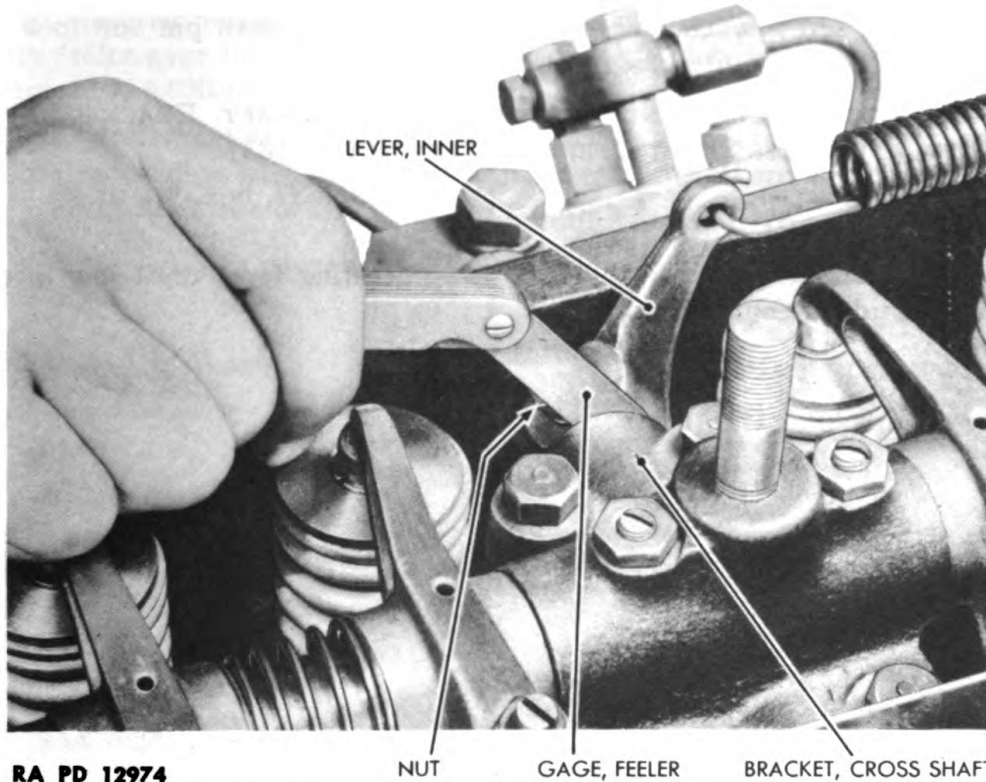

Figure 180—Checking Clearance of Inner Lever and Cross Shaft Bracket
(6) CHECK CLEARANCE BETWEEN INNER LEVER AND CROSS SHAFT BRACKET (fig. 180).